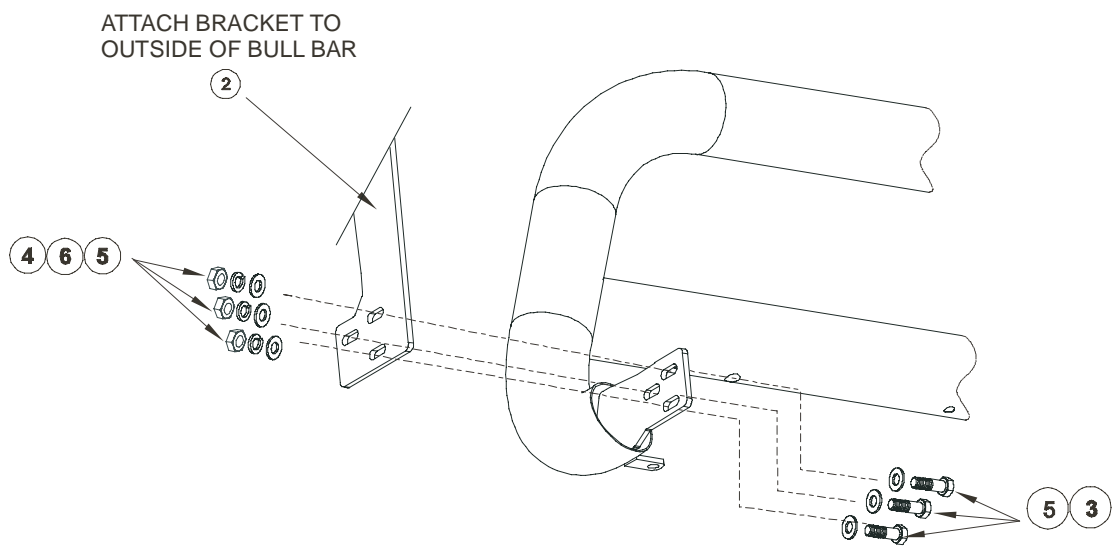

FIGURE 2
4. Attach Bull Bar to brackets using (6) M10 Hex Head Bolts, 12 M10 Flat Washers and 6 M10 Lock Washers as shown. Leave loose. **SEE FIGURE 2**